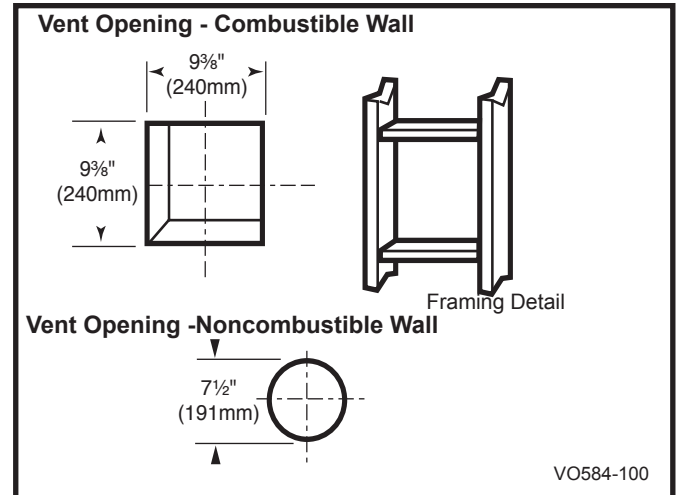

Fig. 18 Locate vent opening.
2. Locate the vent opening on the wall. Refer to Figures 18 & 19 to determine the top of the opening centerline. It may be necessary to first position the stove and measure to find the hole location. Depending on whether the wall is made of combustible materials, cut the opening to the size shown in Figure 18. Combustible wall openings must be framed as shown in Figure 18.
7. Connect the pipe to the inner collar. Fasten the wall plate to the pipe with three sheet metal screws. Slide the trim collar up against the wall plate to cover the screws. (Figs. 18)
8. Install the vent terminal. (Figs. 18) Guide the inner and outer vent termination collars into the adjacent pipes. Double check that the vent pipes overlap the collars by 2". Fasten the termination to the wall with the screws provided, and caulk the joint with weatherproof sealant.